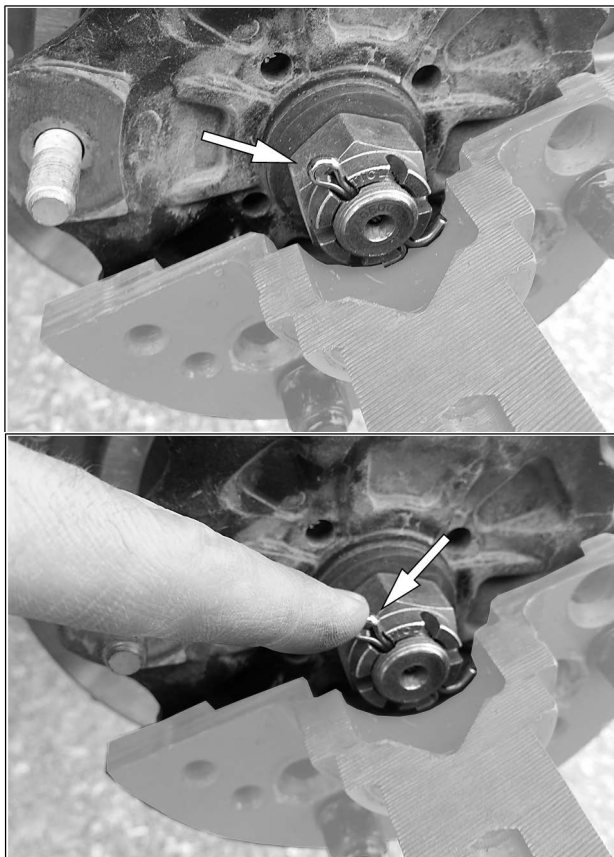

Fig. 8
8. Modify position of cotter pin to avoid interference with track system hub during installation. There must not be any resistance when track system is installed on vehicle's wheel hub. See Fig. 8